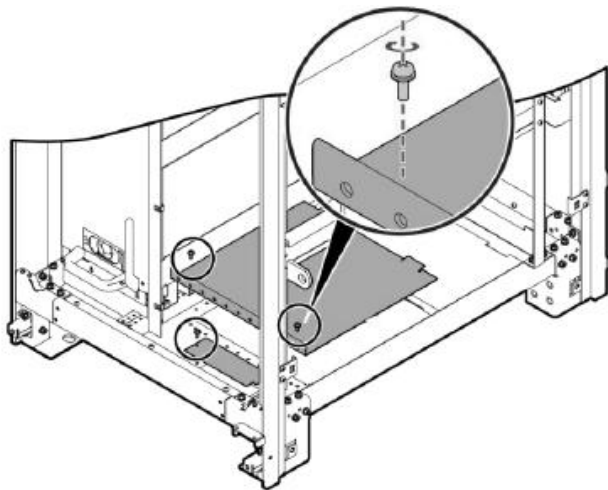

Fig. 2-22 Removal of bottom wiring cover plate (500kVA)
- Step 1: Open the front door of the cabinet, remove the front distribution cover plate of the distribution plug box (the front distribution cover plate of the bypass cabinet), and remove the wiring cover plate of the power cable and the control cable at the bottom of the cabinet from the cabinet, as shown in Fig. 2-21 and Fig. 2-22.